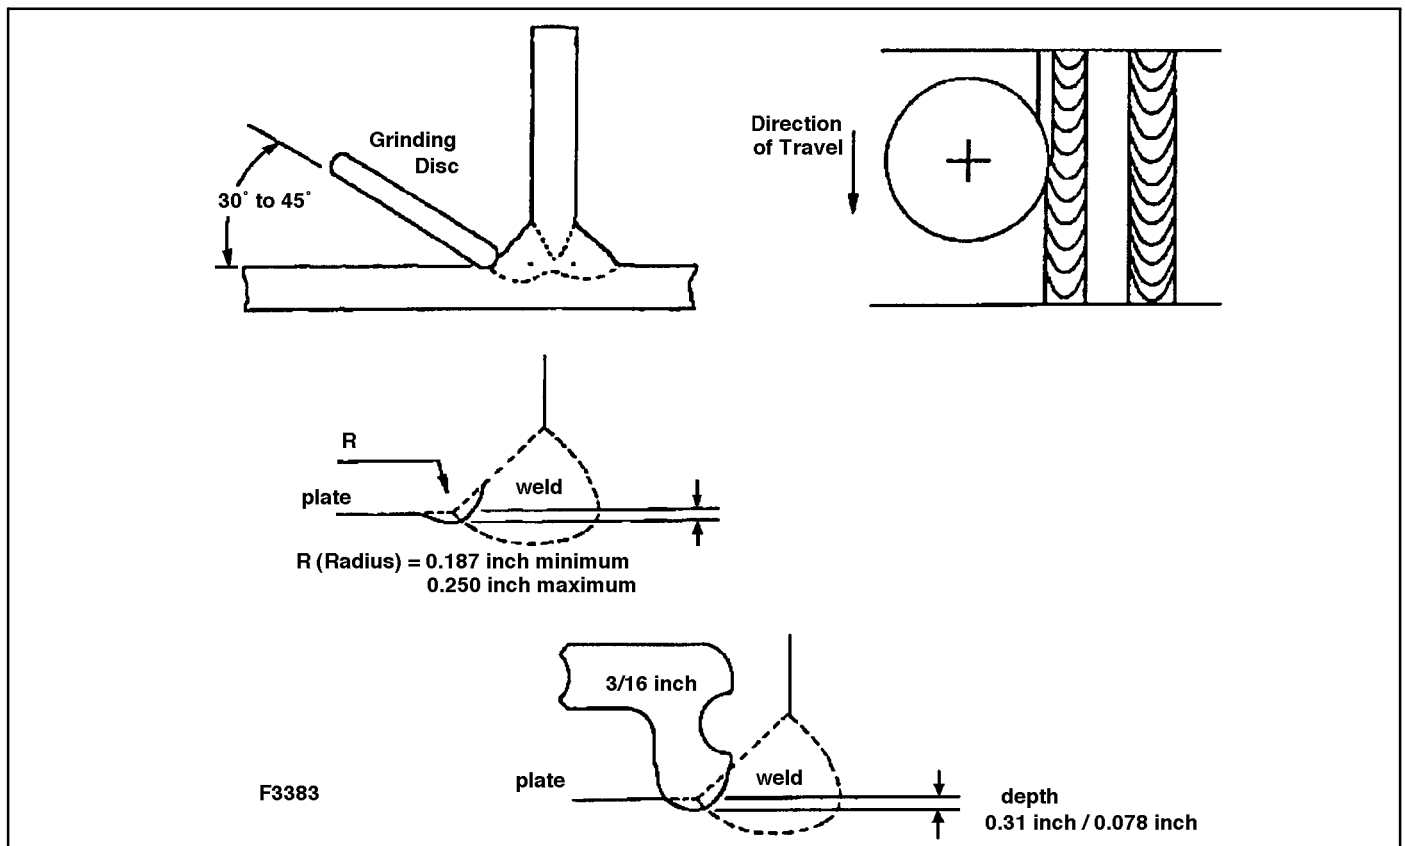
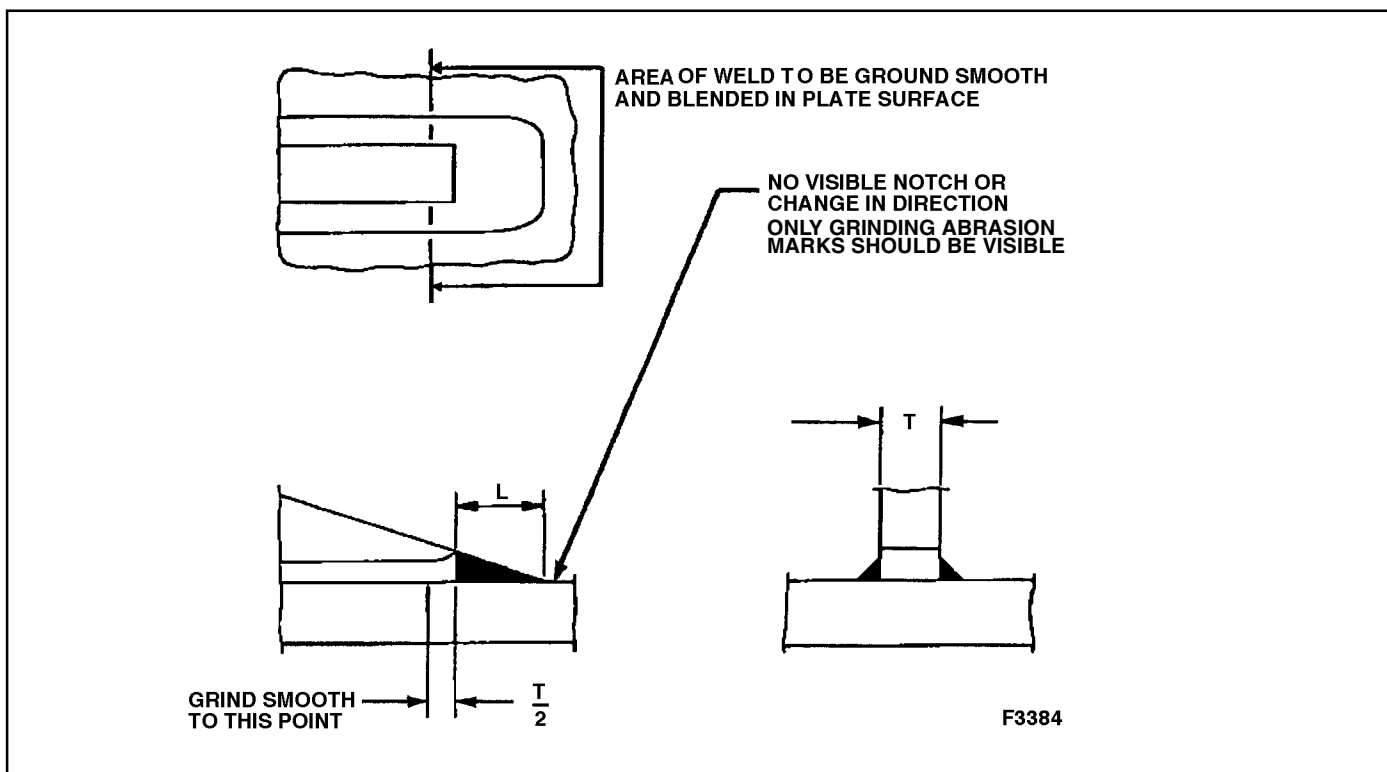

Figure 9-16 Weld Grinding Method
Figure 9-17 Typical Grind Smooth/Blend Preparation For Gusset Ends
8. Grind and blend weld corners and toes by grinding smooth to eliminate any notches or sharp corners and maximize the fatigue life. (See Figure 9-16 and Figure 9-17).
- Contour and grinding should be done as described in either Figure 9-16 or 9-17.